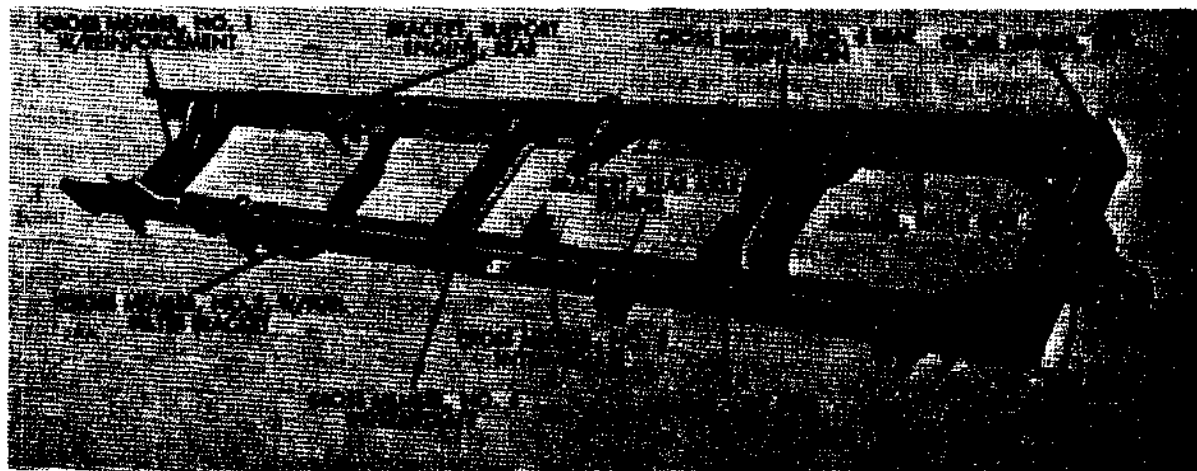

Figure 571. Frame and mounting brackets
a. General. The frame and related parts consist of those parts which support the vehicle and tie the various units together. The frame (figs. 571 and 572) consists of left and right side members (fig, 571) which are pressed steel channel sections. To these sections, the cross members, gussets, brackets, reinforcements, and rear engine mounts are riveted. The related parts which are included with the frame are as follows: